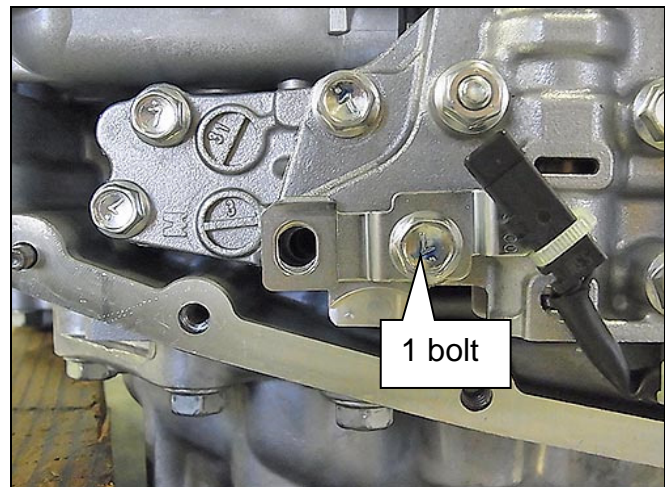

Figure 8
8. Install the CVT fluid temperature sensor bracket to the valve body with one (1) bolt (Figure 8).
**NOTE:** Leave one (1) bolt hole blank as it will be used to secure the oil strainer at a later step.